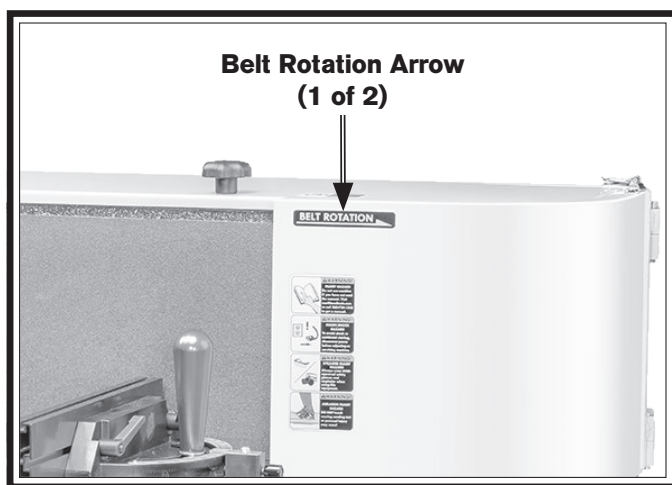

Figure 26. Belt rotation arrow.
5. Remove old sanding belt and replace with new one, being sure arrows on belt match arrow of belt rotation on machine (see **Figure 26**).